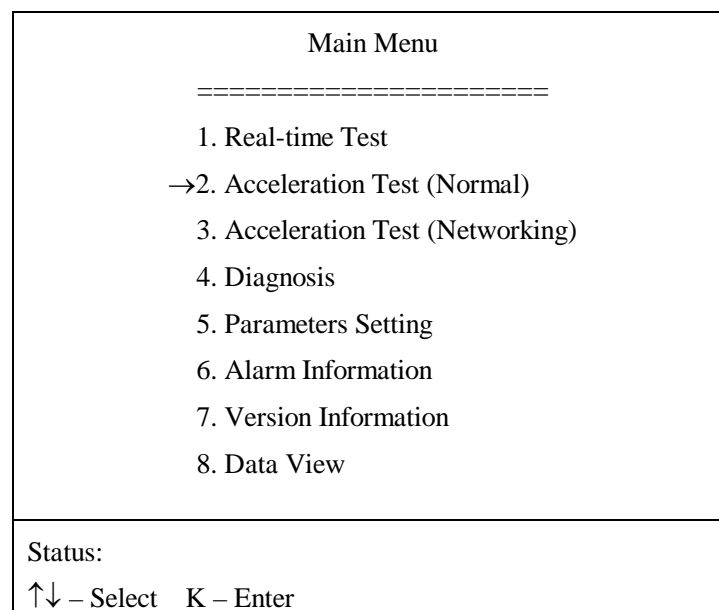

Fig. 12 Interface of “Main Menu”
1) After installing the instrument as mentioned in Section 5.1 and warm-up in Section 5.2, the instrument enters the interface of Main Menu automatically (as shown in Fig. 12). Move the cursor “→” in front of “Acceleration Test (Normal)” by “↑” key or “↓” key (as shown in Fig. 12), press “K” key to enter the interface of Acceleration Test (Normal). Free acceleration tests can be done in this interface (as shown in Fig. 13) according to Standard # GB3847-2005. With the test result displayed on the left of the screen, the transient value and test times displayed on the right, operator can observe the test status of the instrument dynamically.